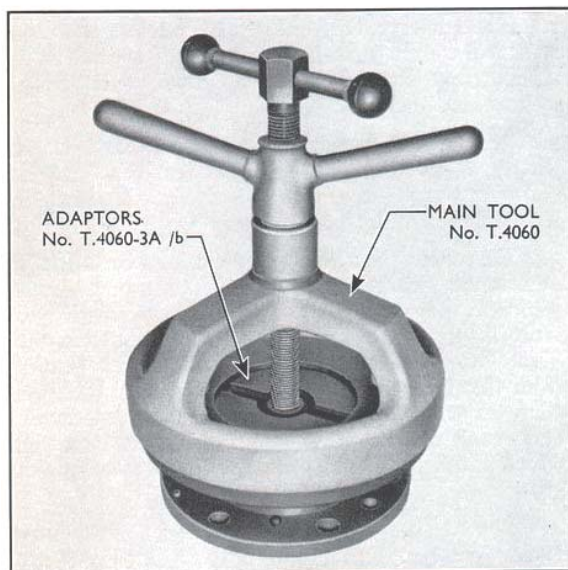

Fig. 26
5. To renew either of the pinion bearing cups, remove the original cup with main Tool No. T.4060, adaptor ring T.4060-3A/a and split adaptors T.4060-3A/b (see Fig. 26). Reverse the position of the adaptors and fit the new cup, tightening the large wing nut of the main tool to pull the cup into position.